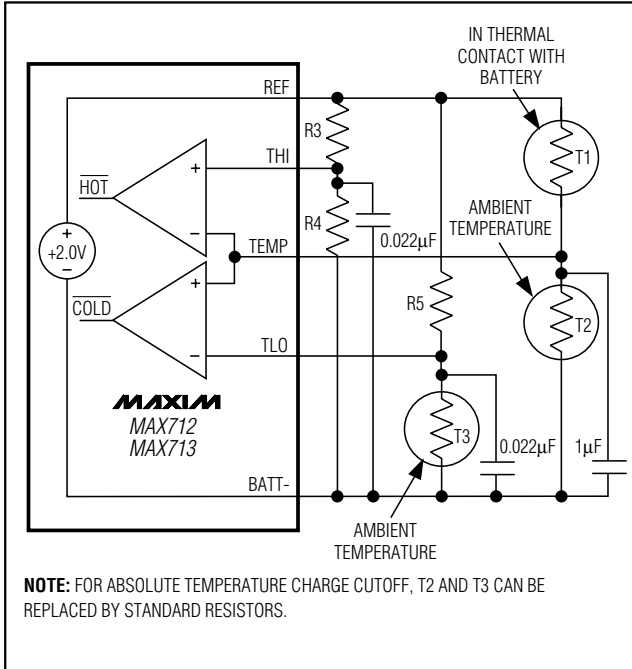
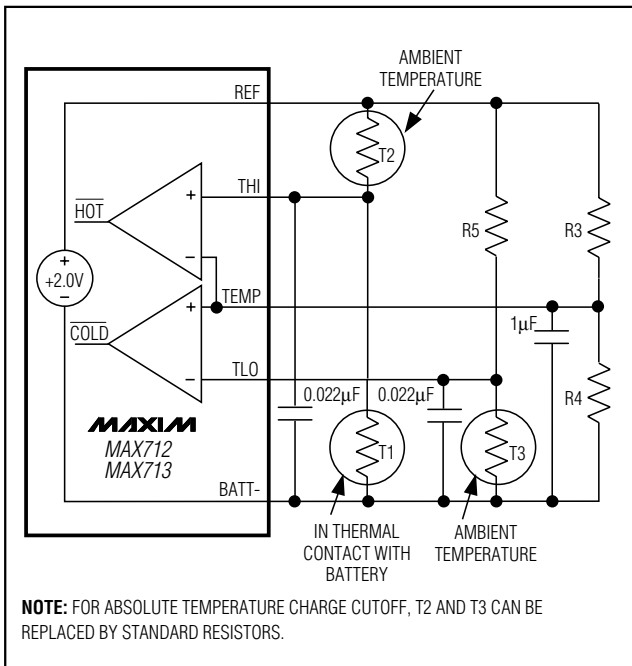
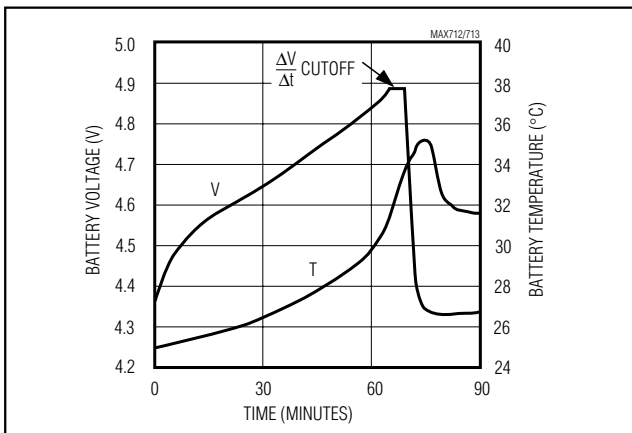

Figure 9a. Temperature Comparators
Figure 9b. Alternative Temperature Comparator Configuration
Figure 13. 3 NiMH Cells Charged with MAX712
Figure 9a shows how the MAX712/MAX713 detect over- and under-temperature battery conditions using negative temperature coefficient thermistors. Use the same model thermistor for T1 and T2 so that both have the same nominal resistance. The voltage at TEMP is 1V (referred to BATT-) when the battery is at ambient temperature.
terminal. In this case, use the configuration shown in Figure 9b. Thermistors T2 and T3 can be replaced by standard resistors if absolute temperature charge cut-off is acceptable. All resistance values in Figures 9a and 9b should be chosen in the 10kΩ to 500kΩ range.
Figures 13 and 14 show the results of charging 3 AA, 1000mAh, NiMH batteries from Gold Peak (part no. GP1000AAH, GP Batteries (619) 438-2202) at a 1A rate using the MAX712 and MAX713, respectively. The *Typical Operating Circuit* is used with Figure 9a's thermistor configuration .